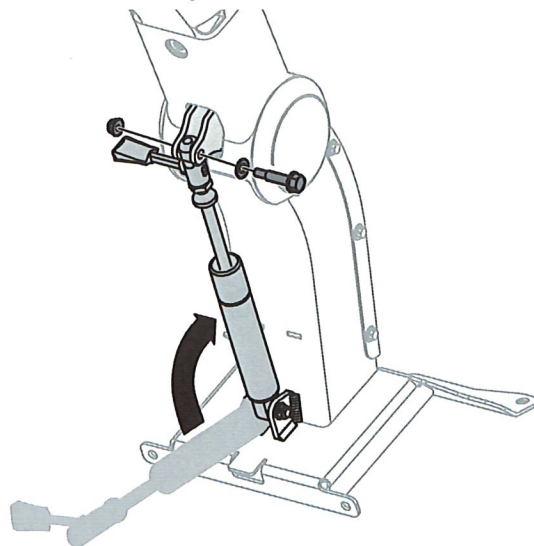

Figure 7
- While holding steering wheel column in a raised position, use other hand to raise tilt locking cylinder, aligning holes in top of cylinder with holes in cylinder mounting plates on the underside of the steering wheel column. See Figure 7.
- Working from right to left, install flat washer and shoulder screw through holes aligned in Step 4 and secure with hex flange lock nut. Torque the shoulder screw to 120-144 in-lbs (14-16 N-m). See Figure 7.